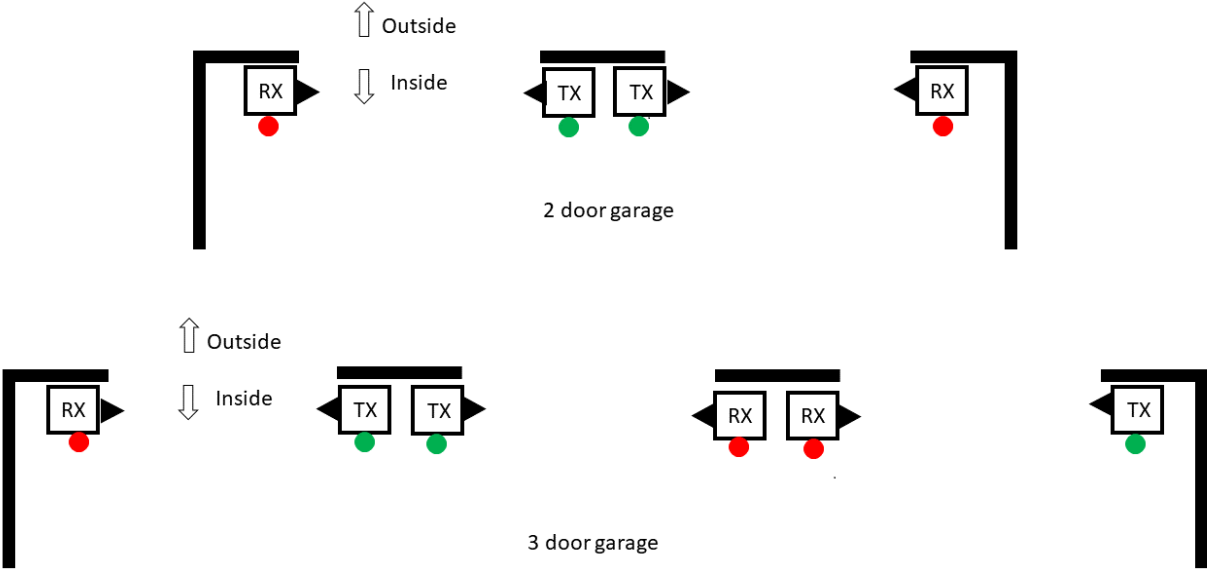

figure 4. Installation in garages with multiple doors (view from above)
5. **For installation with multiple doors:** refer to **figure 4** for correct positioning of the receive housings (R1) and transmit housings (T1). Note that the units may need to be installed upside down from the description below for certain door configurations. The upper wires R7 and T6 would then be used instead of the lower wires.